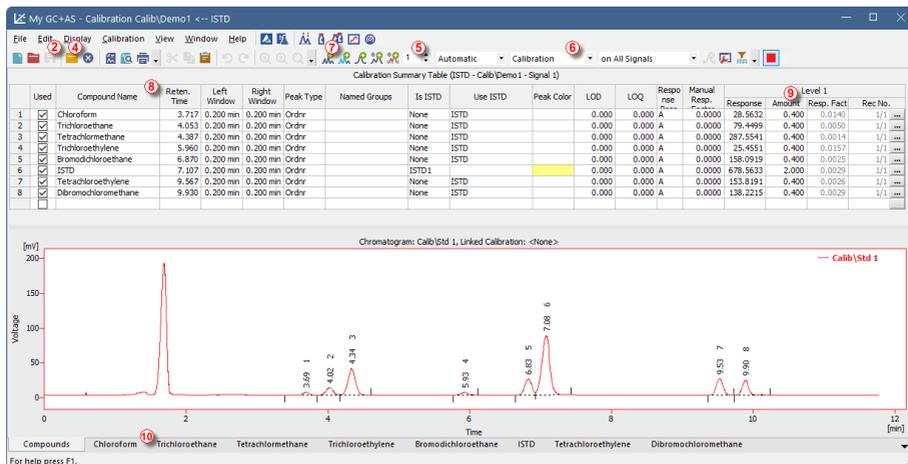

Fig. 9: Calibration window - loaded standard
- Only one signal of the chromatogram can be active at a time. The active signal can be recognized from the legend section ① in the upper right corner of the graph (active signal is set in bold), from the icons in the *Overlay* toolbar ② (the active signal has the highlighted  icon) or from the graph outline color and table headers color. Values inside the tables change by changing the active signal.
- Change the active signal by double clicking on its name in the legend section ①. Change the color of the currently active signal to another one by clicking ③ on the *Not used color*  icon in the *Overlay* toolbar. All parts of the *Chromatogram* window mentioned in the previous step will change color.
- Click in any row in the *Result table* ③ . The peak (or peaks) corresponding to the row you just clicked into will change color according to the color of the signal. This change will last until the focus in the *Result table* is canceled.
- To add permanent color to the peak, click the *View* button ④ in the right side of the *Results* tab. This will get you to the linked calibration file. There, in the *Calibration Summary Table*, find the *Peak Color* column (see **Fig. 9** on pg. 21.). In the row corresponding to the peak to be colored select the appropriate color and click *OK*. Return to the *Chromatogram* window by using the  icon in the toolbar. The selected peak is now colored according to the color selected in the *Calibration* window (green in our case).
- You can change the integration of peaks by using the interactive icons in the toolbars on the left side of the *Chromatogram* window ⑤ , by using commands from *Chromatogram* menu ⑥ or directly in the *Integration* tab ⑦ . Any changes made either way will change the **Integration table** and can be copied to the template method. To do so, click on *Method - Save as Template...* menu command.
- It's recommended to check that the **Current Level** field **5** is set to 1, however, this is only for your orientation, because when **Calibration** option **6** is selected response is added to the first empty level regardless of which one is displayed. It is important to be on correct level when using **Recalibration** option. Use the **Add All** icon (blue) **7** to move all identified peaks to the calibration table. The Calibration table appears in the **Calibration** window, ready to be completed as seen on **Fig. 9** on **pg. 21**.
- As it can be clearly seen in the calibration, particular peaks are now identified according to their retention times only. Click and edit the fields in the **Compound Name** column **8** to those seen on **Fig. 9** on **pg. 21**. You may also set the peak color for some peak, for example the ISTD peak, in the **Peak Color** column.
- icon (blue) ⑦ . Fill in the *Amount* column with 1.0 values (except for the ISTD peak, in which the 2 value should be used again).
- Set the third calibration level accordingly using the STD 3.PRM file and *Amount* of 3.0 and the fourth level (file STD 4.PRM, *Amount* 5.0) except for the ISTD peak (*Amount* 2 every time). On the tabs of the individual compounds ⑩ , the linear four-point calibration can be seen. Save the calibration file now using the *Save Calibration* ④ icon ② under the name CALIBDEMO.CAL into the default directory.